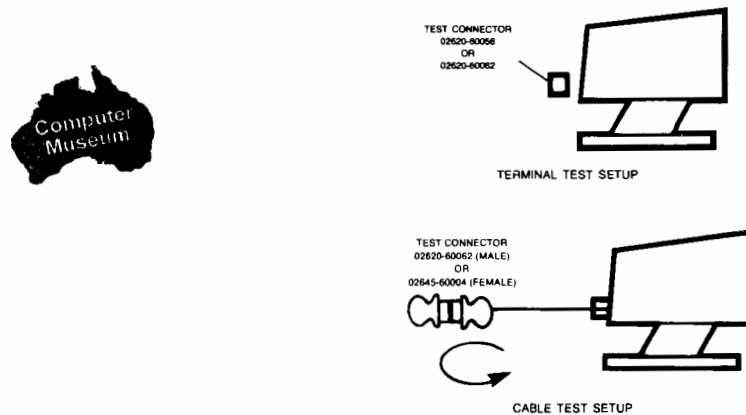

Figure 6-6. Datacomm Test Setups
**TEST SETUPS.** Several tests can be used depending on the item(s) to be tested. Figure 6-6 illustrates test setups for testing the terminal and the cable(s).